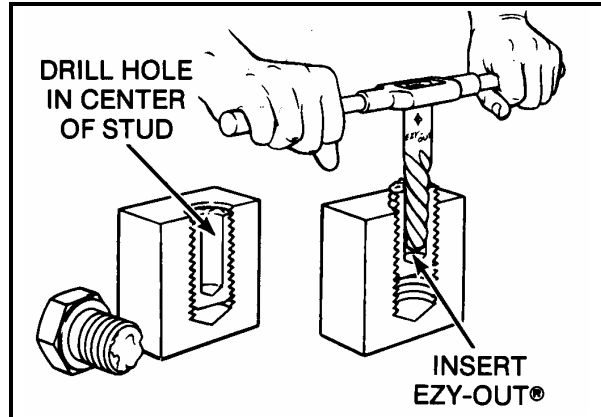

Figure 5.2.2.1 Stud Removal
- 2) Drill a hole in the broken stud (See Figure 5.2.2.1). Refer to Table 5.2.2.1 for drill sizes.